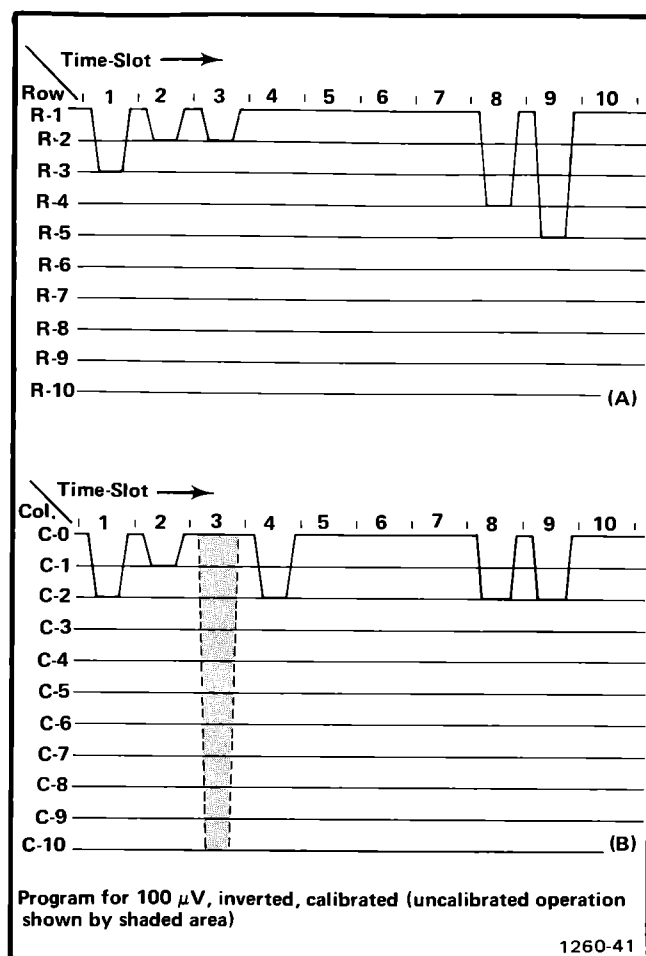

Fig. 3-9. Idealized current waveforms of (A) Row analog data, (B) Column analog data.
Figure 3-9(A) shows an idealized current waveform of row analog data, which results from the 10 time-slot pulses. Each of the steps to current shown in these waveforms correspond to 100 μ A of current. The row numbers on the left-hand side of the waveform correspond to the rows in the character selection matrix shown in Fig. 3-8. The row analog data is connected back to the readout system via contact B28 of the plug-in interface. Idealized column current waveforms at contact A28 of the plug-in interface are shown in Fig. 3-9(B).
The column analog data encoded by the plug-in unit can be modified by attenuator probes connected to the input connectors of vertical plug-in units. A special coding ring around the input connector of the plug-in unit senses the attenuation ratio of the probe (with readout-coded probes only). The probe contains a resistor that causes additional column current. For example, if a 10X attenuator probe is connected to a plug-in with the coding for 100 μ V, an additional unit of current is added to the column analog data during time-slot 1. Since two units of current were encoded in Fig. 3-9, this additional current results in a total of three units of column analog current during this time-slot.